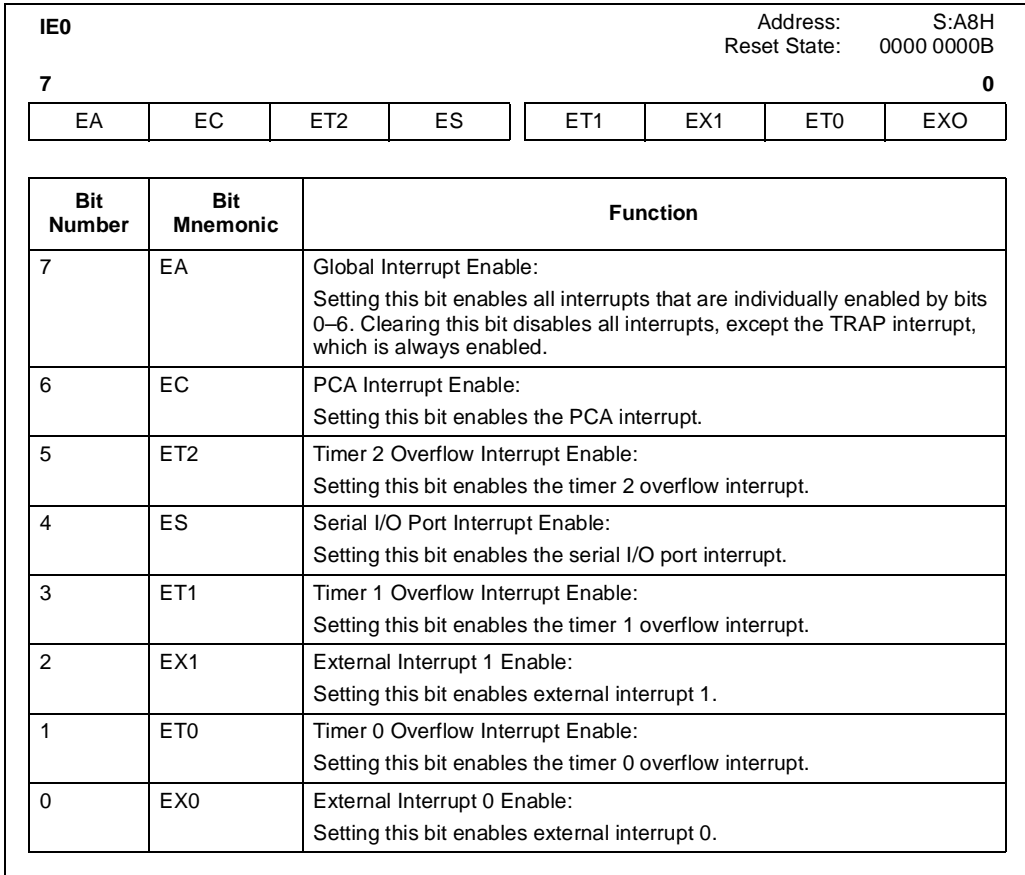

Figure 5-2. Interrupt Enable Register
External interrupts INT0# and INT1# (INTx#) pins may each be programmed to be level-triggered or edge-triggered, dependent upon bits IT0 and IT1 in the TCON register (see Figure 7-6 on page 7-8). If $IT_x = 0$, INTx# is triggered by a detected low at the pin. If $IT_x = 1$, INTx# is negative-edge triggered. External interrupts are enabled with bits EX0 and EX1 (EXx) in the IE0 register (see Figure 5-2 on page 5-6). Events on the external interrupt pins set the interrupt request flags IEx in TCON. These request bits are cleared by hardware vectors to service routines only if the interrupt is negative-edge triggered. If the interrupt is level-triggered, the interrupt service routine must clear the request bit. External hardware must deassert INTx# before the service routine completes, or an additional interrupt is requested. External interrupt pins must be deasserted for at least four state times prior to a request.
Two timer-interrupt request bits TF0 and TF1 (see TCON register, Figure 7-6 on page 7-8) are set by timer overflow (the exception is Timer 0 in Mode 3, see Figure 7-4 on page 7-6). When a timer interrupt is generated, the bit is cleared by an on-chip-hardware vector to an interrupt service routine. Timer interrupts are enabled by bits ET0, ET1, and ET2 in the IE0 register (see Figure 5-2 on page 5-6).
Serial port interrupts are generated by the logical OR of bits RI and TI in the SCON register (see Figure 9-2 on page 9-3). Neither flag is cleared by a hardware vector to the service routine. The service routine resolves RI or TI interrupt generation and clears the serial port request flag. The serial port interrupt is enabled by bit ES in the IE0 register (see Figure 5-2 on page 5-6).
Each interrupt source (with the exception of TRAP) may be individually enabled or disabled by the appropriate interrupt enable bit in the IE0 register at S:A8H (see Figure 5-2 on page 5-6). Note IE0 also contains a global disable bit (EA). If EA is set, interrupts are individually enabled or disabled by bits in IE0. If EA is clear, all interrupts are disabled.